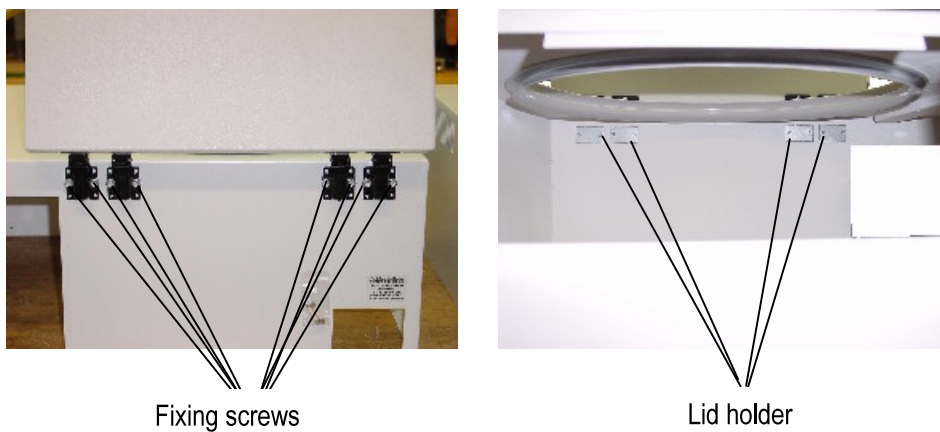

figure 24
- Hold the lid with one hand and remove the fixing screws of the hinges (see figure 24) Take care of the lid holder sheet metal.